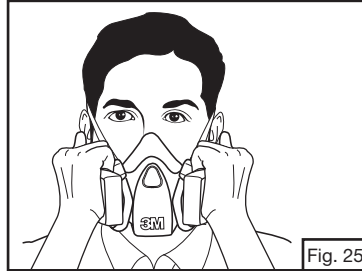

Fig. 25
1. Using hands press or squeeze filter covers toward facepiece and inhale gently. If you feel facepiece collapse slightly and pull closer to your face with no leaks between the face and facepiece a proper seal has been obtained. (Fig. 25).